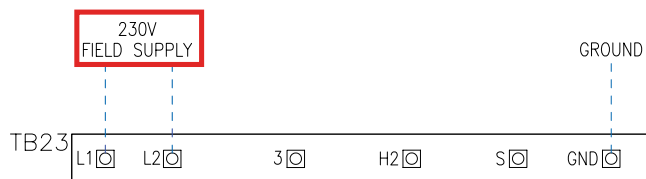

Figure 2-2
- Connect main power to the evaporator unit at the L1/L2 and GND terminals on the terminal board as shown in the wiring diagram (Figures 2-2, 2-3).